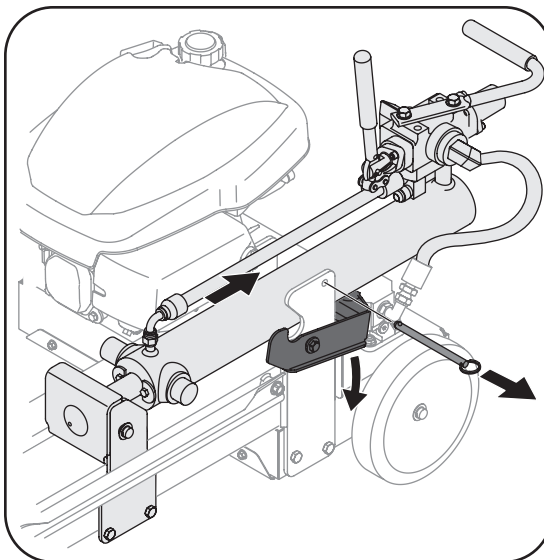

Figure 4-2
1. Remove locking pin from cylinder storage position. See Figure 4-2.